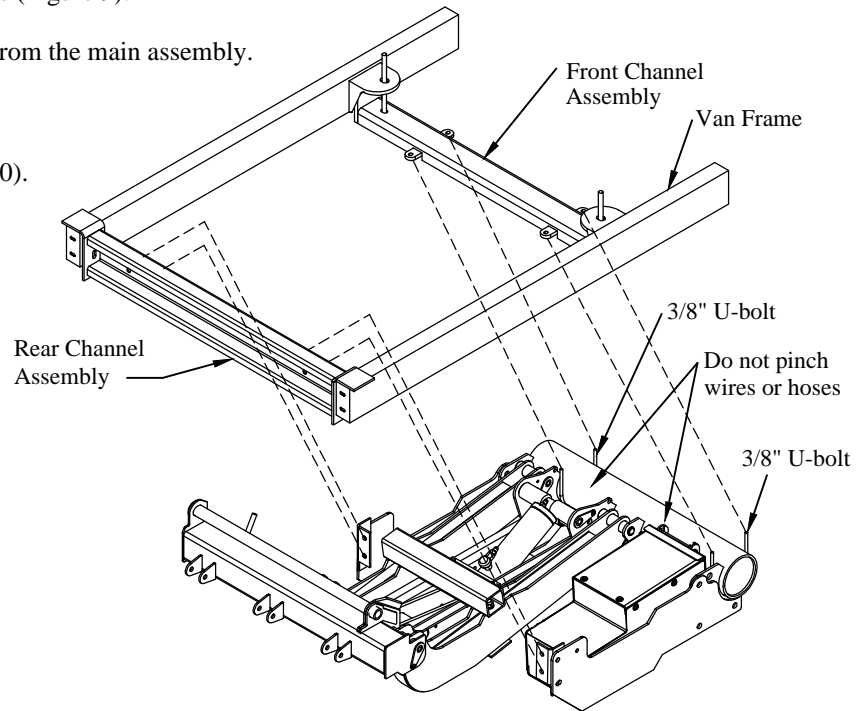

Figure 9: Main assembly position on frame.
5. **Attach** the 3/8" U-bolts to the front channel assembly with the supplied four (4) flat washers, lock washers and nuts.
6. **Attach** the rear mounting angles to the rear channel assembly with the supplied four (4) 1/2" x 1-1/4" bolts, lock washers, and nuts (Figure 9).